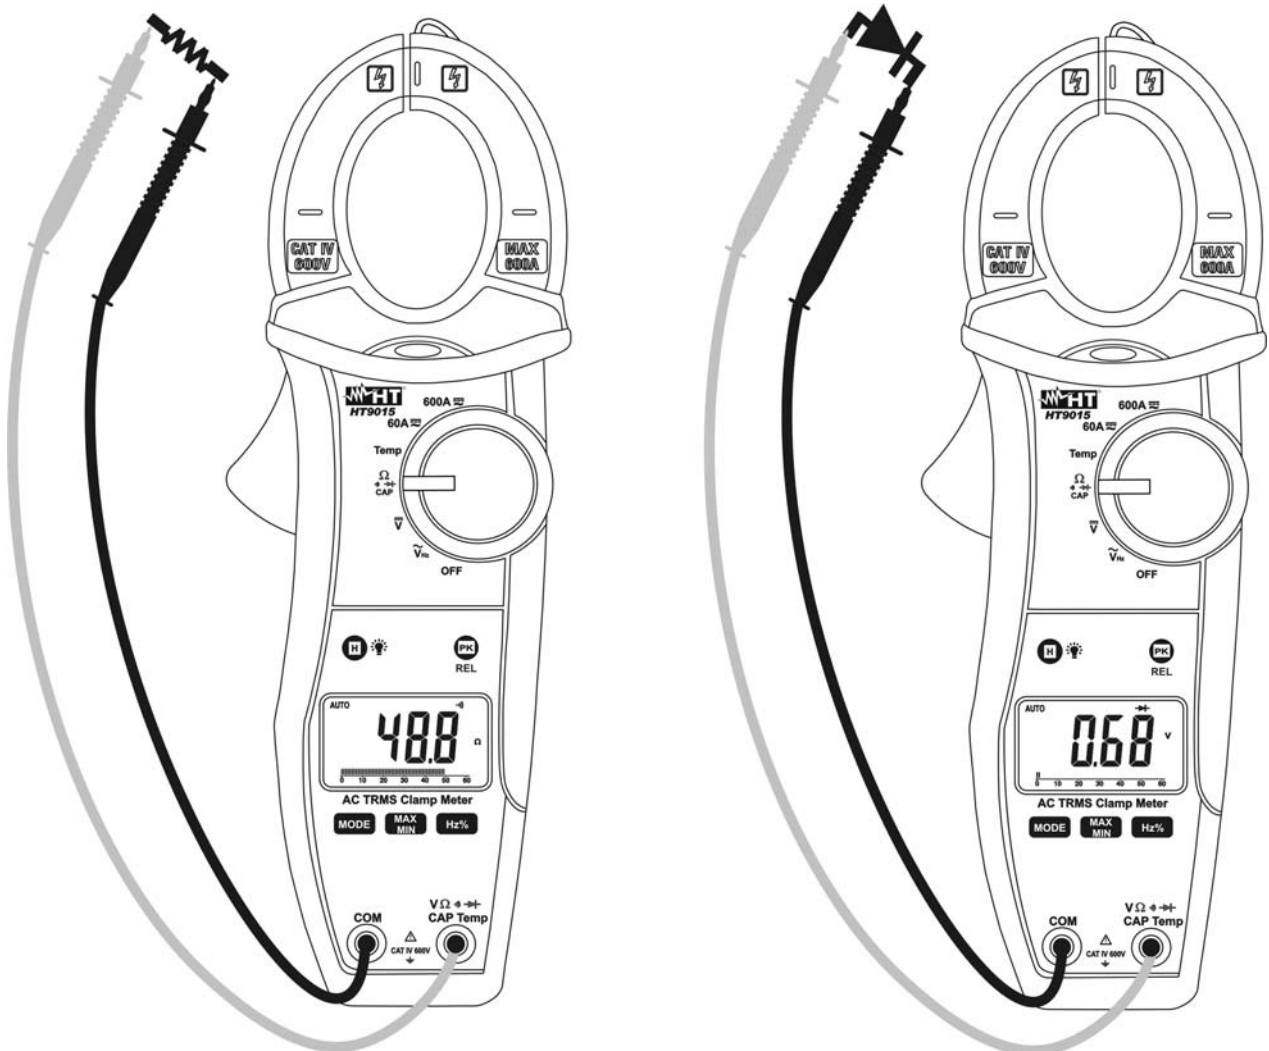

Fig. 6: Taking Continuity test and Diode test
3. Insert the red test lead plug into $V\Omega \cdot \text{CAPHz\%Temp}$ jack and the black test lead plug into **COM** jack and perform continuity test on the object under test (see Fig. 6 – left side). Buzzer emits sound if the measured resistance value is less about 60Ω
5. Connect the red test leads to the anode of diode on test and the black test lead on the cathode ones (see Fig. 6 – right side). Reverse position of test leads to reading reverse polarization voltage